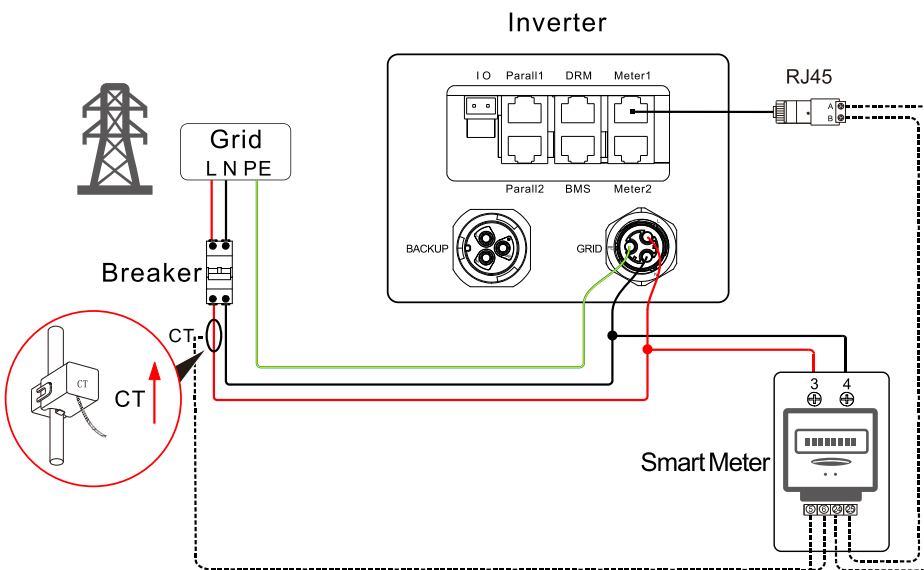
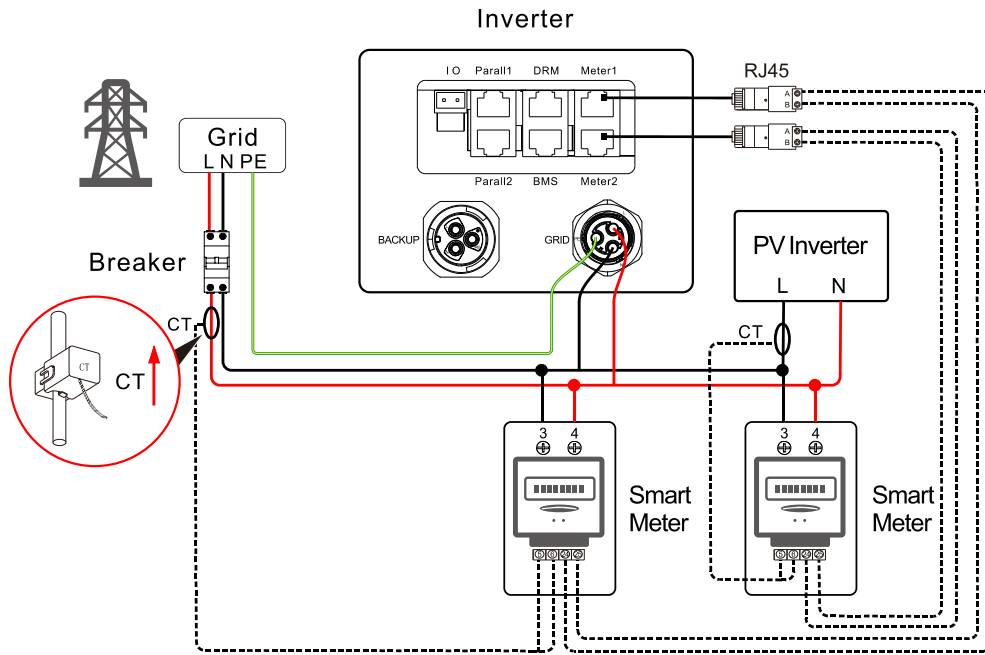
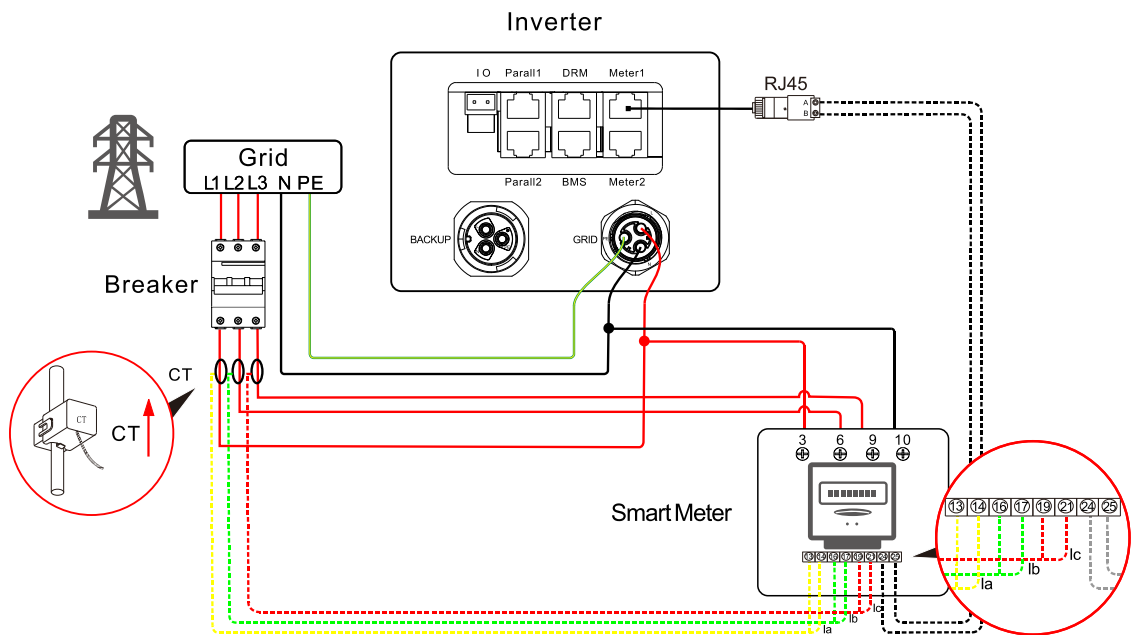
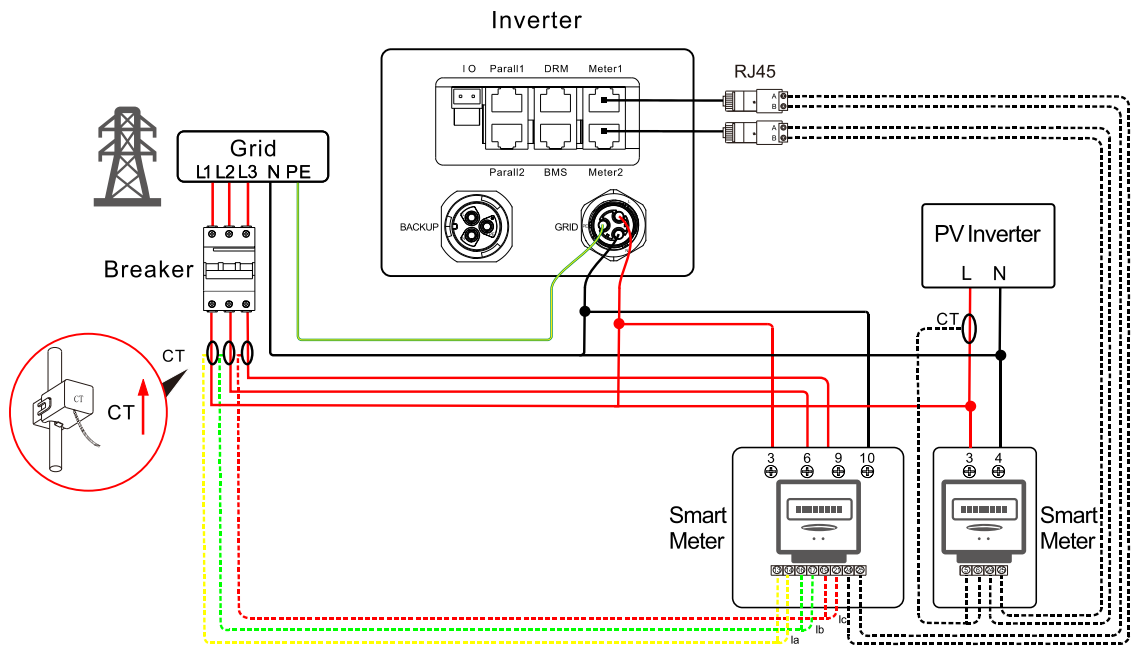

Figure3-33 Connection diagram between communication smart meter and inverter and grid (single phase)
Figure3-34 Connection diagram between communication smart meter and inverter and grid (single phase + single phase)
Figure3-35 Connection diagram between communication smart meter and inverter and grid (three-phase)
Figure3-36 Connection diagram between communication smart meter and inverter and grid (three-phase + single phase)
Meter communication port is used to communicate with smart meter to achieve zero-export. The connection between smart meter and inverter and grid is as shown in Figure3-33, Figure3-34, Figure3-35, Figure3-36.
- When there is a PV inverter in the user's home, it is recommended to install the smart meter in the grid output side of the PV inverter to ensure the accuracy of grid electricity statistics, and the address is set to A-002. As shown in the Figure3-34 and Figure3-36.